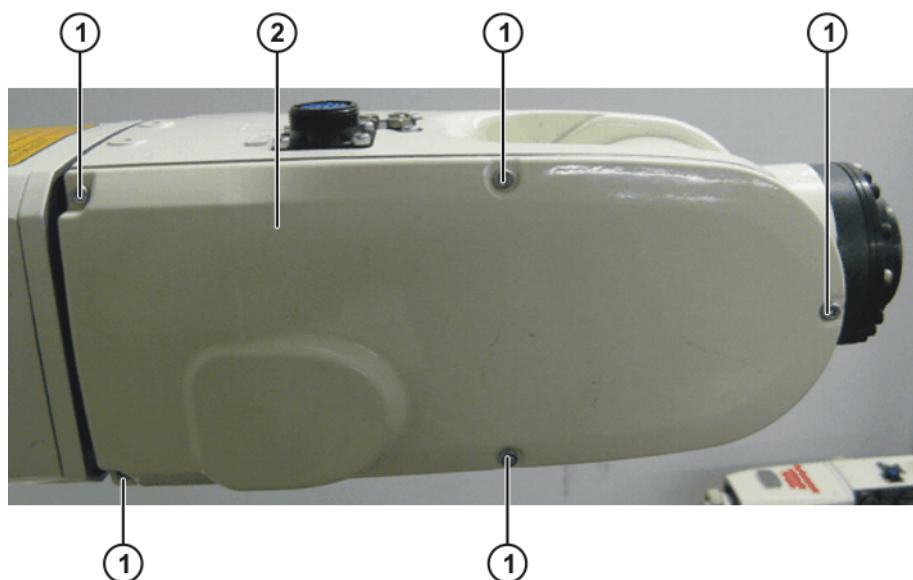

Fig. 11-1: Cover A5
1. Remove 5 screws (>>> Fig. 11-1) from the arm.
8. Mount the cover (>>> Fig. 11-1).